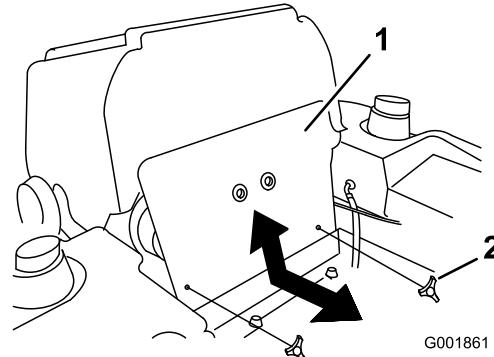

Figure 1
4. Tilt the seat forward and remove the front engine panel (Figure 1).